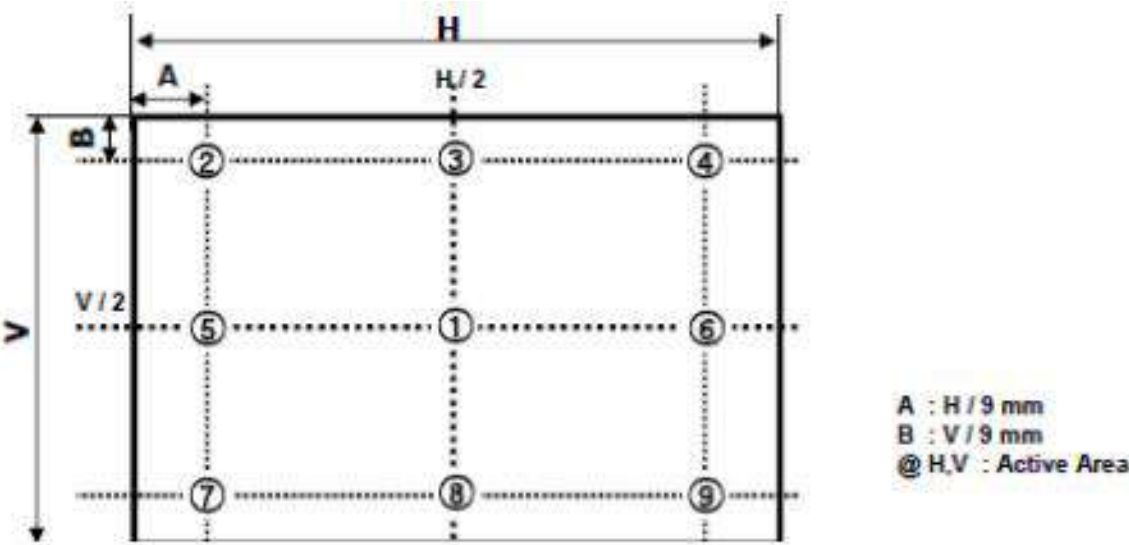

FIG. 2 9 Points for Luminance Measure
2. Surface luminance are determined after the unit has been ‘ON’ and 1 Hour after lighting the backlight in a dark environment at 25±2°C. Surface luminance is the luminance value at center 1-point across the LCD surface 50cm from the surface with all pixels displaying white. For more information see the FIG. 2.
For more information, see the FIG. 2.